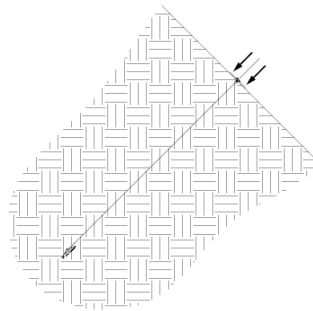

Figure 19: Slide Plate
5. Slide the load bearing plate down the anchor tendon towards the slope surface using your hands (Figure 19).